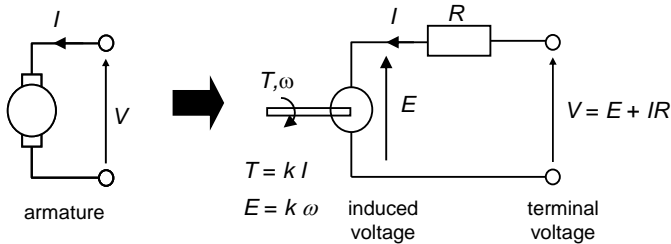

Fig. 1. Equivalent circuit for a PM DC motor.
Fig. 1 shows the equivalent circuit for a permanent-magnet (PM) DC motor. It contains a resistance  $R$  which represents the armature resistance, and the induced (back-emf) voltage source  $E$  which represents the transformation between electric and mechanical power.